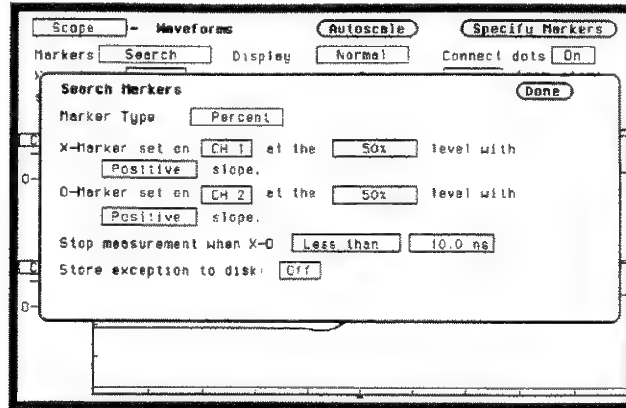

Figure 25-25. Stop Measurement Less than Setup
7. The Specify Search Markers pop-up now looks like figure 25-25.